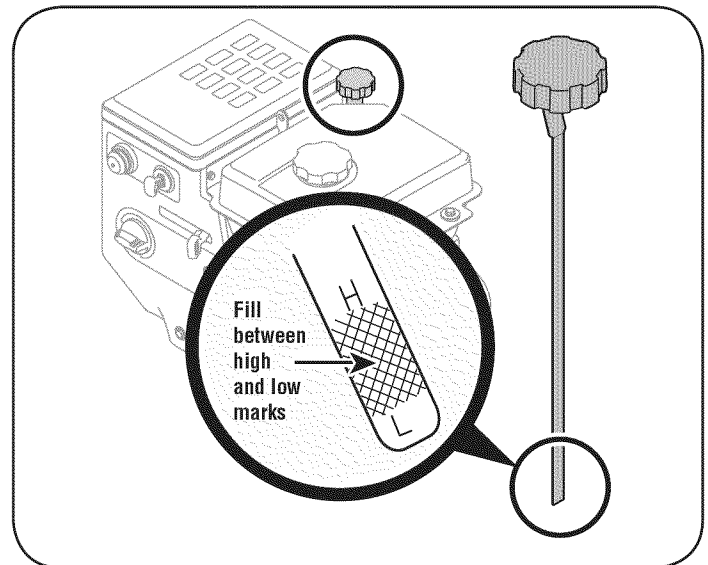

Figure 16
3. Remove the oil filler cap/dipstick. If level is low, slowly add oil until oil level registers between high (H) and low (L). See Figure 16.